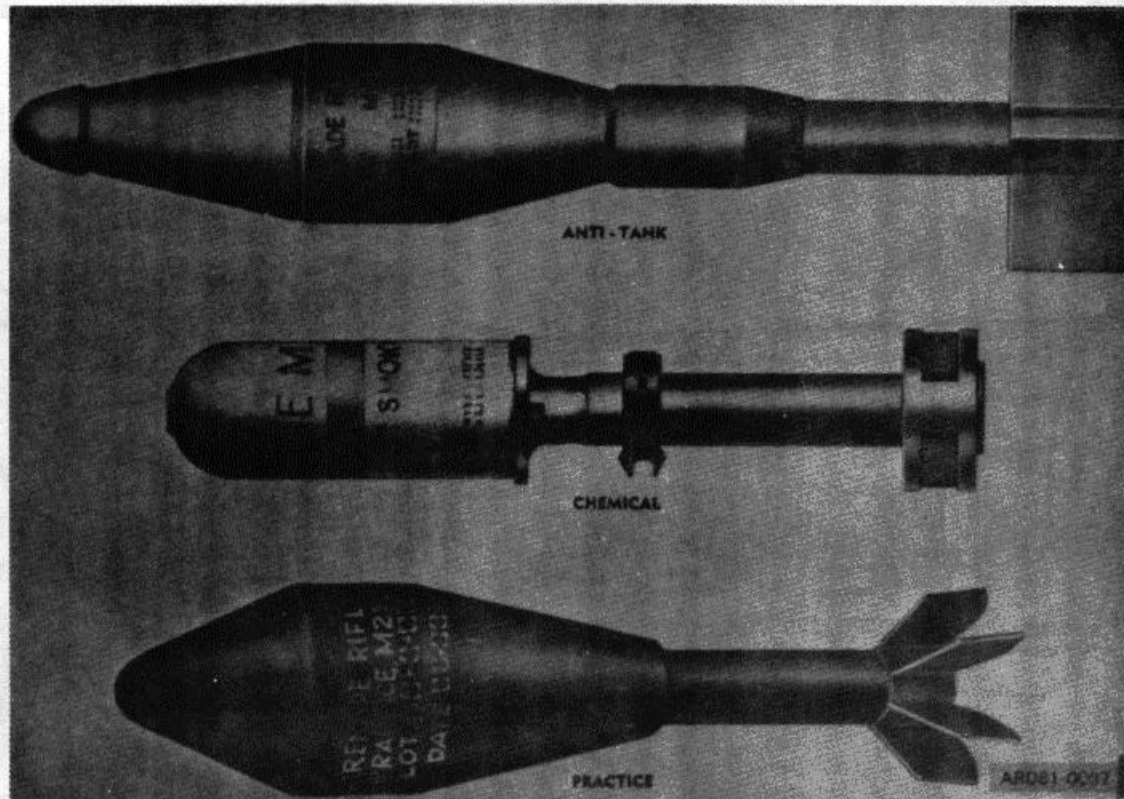

Figure 1-4. Representative types of rifle grenades.
a. General. Rifle grenades (fig. 1-4) are fin-stabilized. They are launched from a rifle. The propelling force for the grenade is provided by a special gas-producing grenade cartridge, which is loaded into the rifle chamber. Rifle grenades